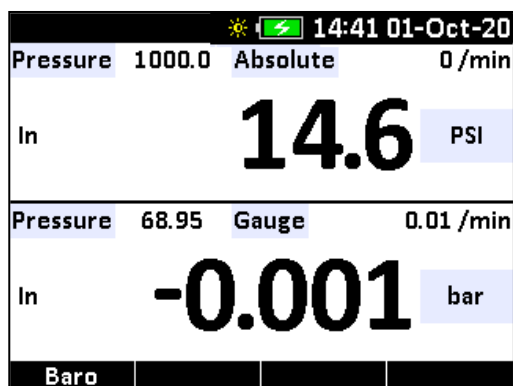

Figure 6
1. Connect the pressure module to the ASC-400 calibrator, as shown below in Figure 6.